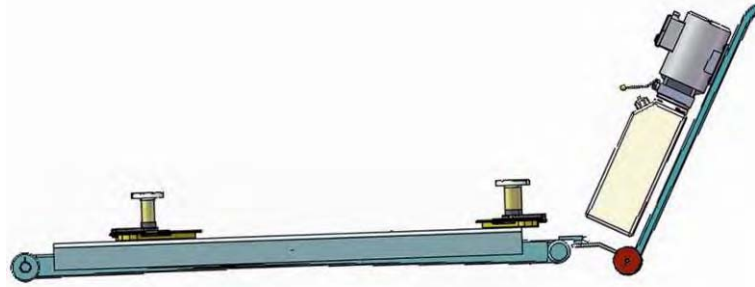

Fig. 19
5. Move the lift with the power unit stand (**See Fig. 19**)